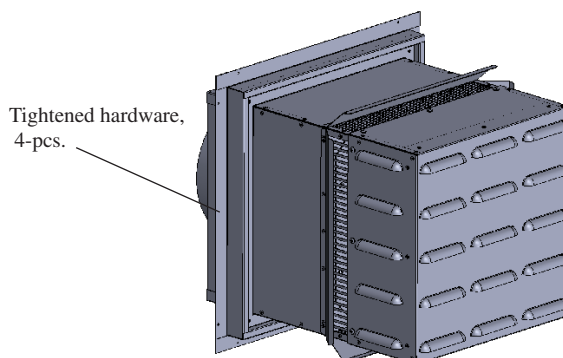

Figure 13g. Completed Power Vent installation.
Step 9: Install the Power Vent. Place the Power Vent into the rough-in frame, aligning the Power Vent into final position. Ensure the power harness is placed down in the rough-in frame when placing the Power Vent. Secure the Power Vent in place with the supplied hardware, 4 pieces. See **Figure 13g**.